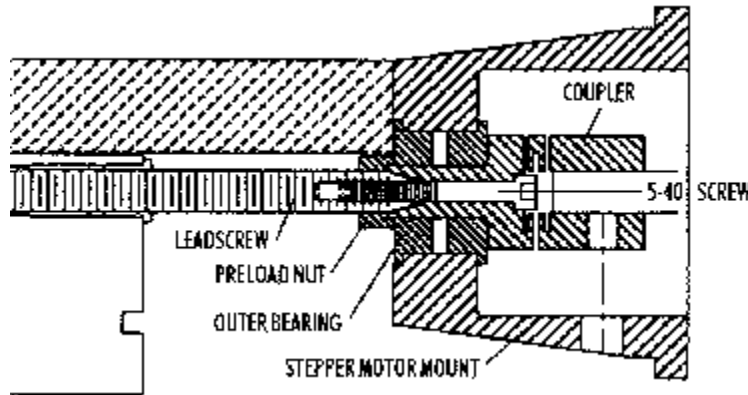

FIGURE 4-A cross-section of the stepper motor mount shows how the coupler is attached to the leadscrew.
4. Using a 3/8" wrench, adjust the preload nut snugly against the end of the bearing. (Note the direction of rotation; i.e., left- or right-hand threads.) Tighten it enough to remove all endplay. (See Figure 4 to understand how the nut preloads the bearings.) Turn the coupling by hand to make sure it turns freely, then put a little LocTite® on the threads behind the preload nut and let capillary action draw the fluid in. Figure 3 shows how to use a hex key through the hole in the mount to keep the coupler from turning while tightening the preload nut.